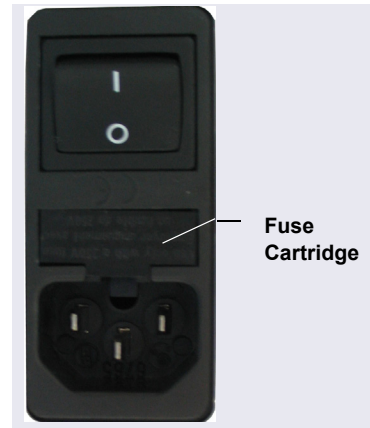

Figure 10-14. DP/SP Fuse Cartridge
5. The fuse cartridge is located next to the main power switch (see Figure 10-14). Use a small screwdriver to remove the fuse cartridge.